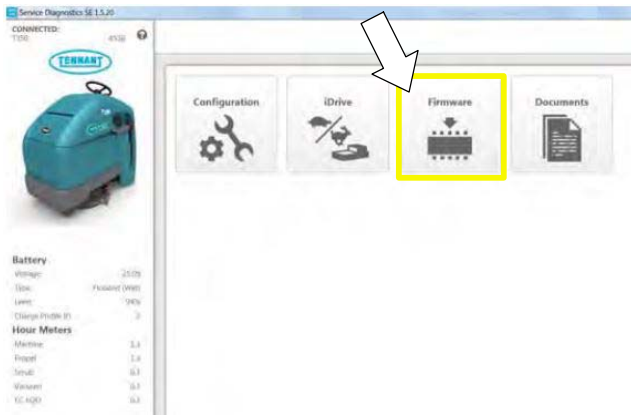

Fig. 6
5. If firmware updates are required, the “Firmware” button on the home screen will be highlighted in yellow as shown (Figure 6). Press the Firmware button to update the machine’s firmware.